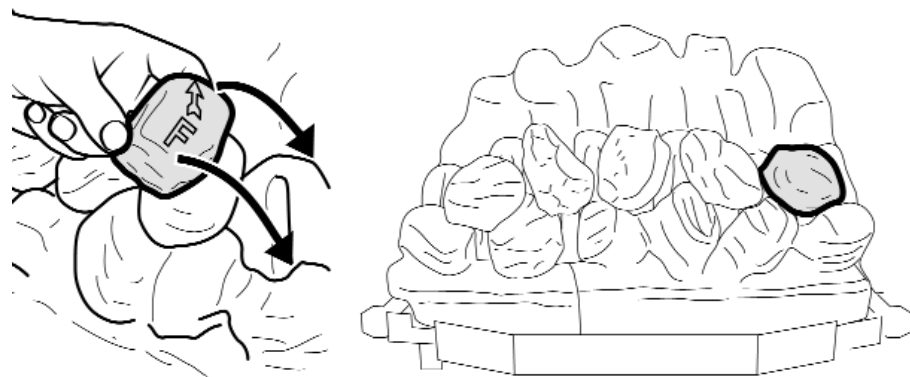

Figure 8. Second row "Coal F"
9. Hold coal 'F' upright with the arrow pointing to the top. Locate coal 'F' as shown in figure 8.